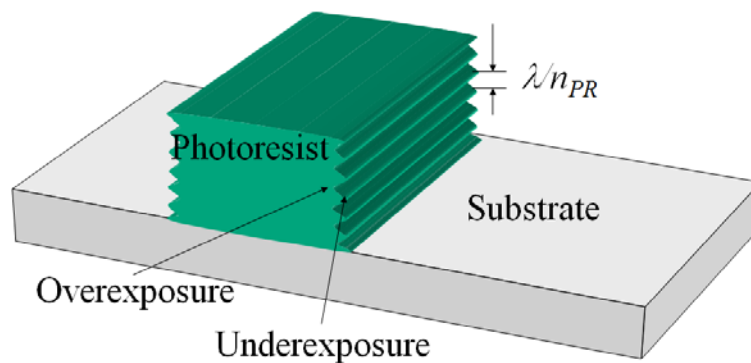

Figure 2
3. [a] Figure 2 shows a standing wave effect on photoresist during photolithography process. Explain how to solve this problem in order to produce smooth photoresist sidewall and improved resolution.